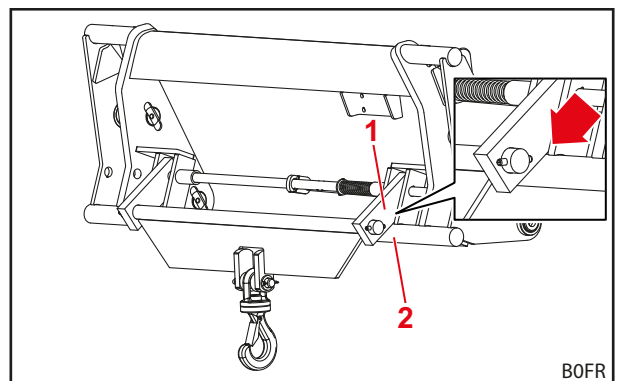

Fig. 91 Position of the implement for load transport
- (1) If there is no anti-lowering guard: Lower the front loader down to the ground.
- (2) Hook the load onto the hook.
- (3) Raise the front loader until the load is hanging freely.
- (4) Position the implement so that the lugs are resting on the lower cross bar of the change frame (see Fig. 91).
- (5) Drive to the unloading site very carefully.